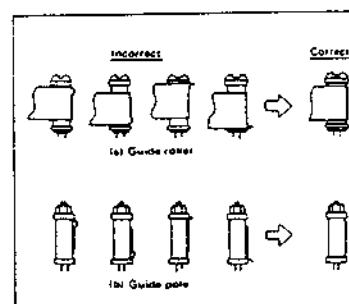

Fig. 1-5-7
- 8) After adjustment, confirm that the tape wrinkling does not occur at the roller flanges, as in Fig. 1-5-7